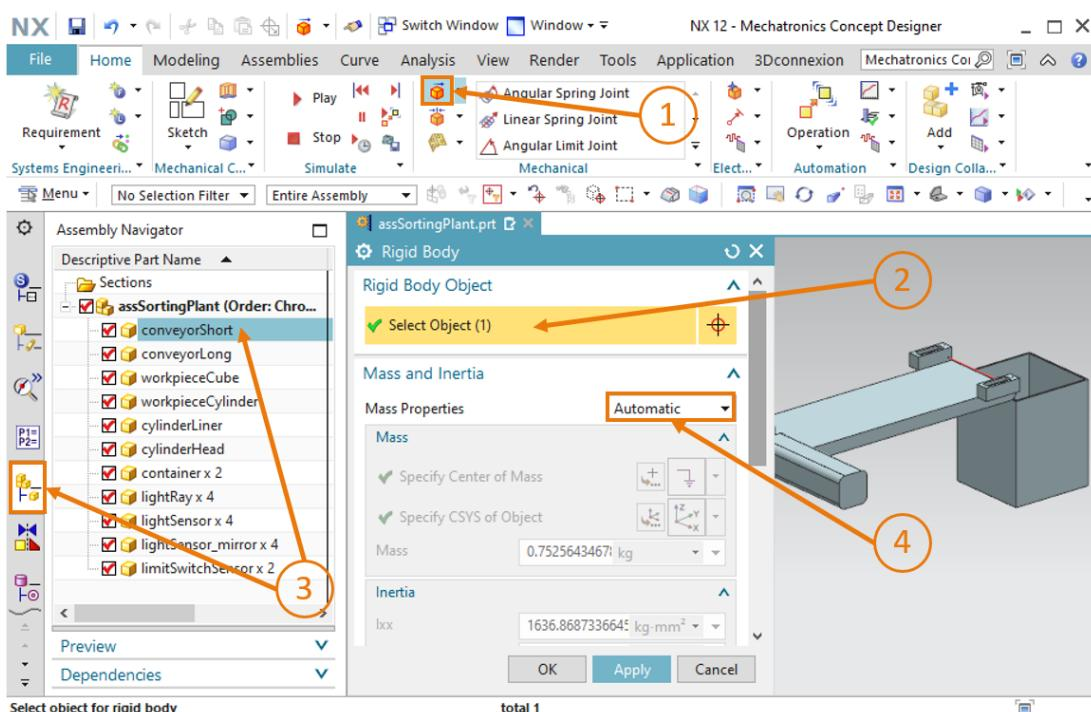

Figure 10: Creating a rigid body in MCD – Object selection, mass and inertia
- Start by assigning the "Rigid Body" property to the "conveyorShort" component. To do this, select the "Rigid Body" command in the "Mechanical" menu group (see Figure 10, step 1). Of course, you can also call up this command via the Command Finder. The "Rigid Body" window opens. In this window, you first must select the object that is to be defined as a rigid body. To do this, click the "Select Object" button in the "Rigid Body Object" group (see Figure 10, step 2). In the Resource bar on the left of the screen, navigate to the **Assembly**
**Navigator** tab. Select the "conveyorShort" model from the selection menu under the "assSortingPlant" assembly (see Figure 10, step 3). Leave the mass properties set to "**Automatic**" in "Mass and Inertia" group (see Figure 10, step 4).